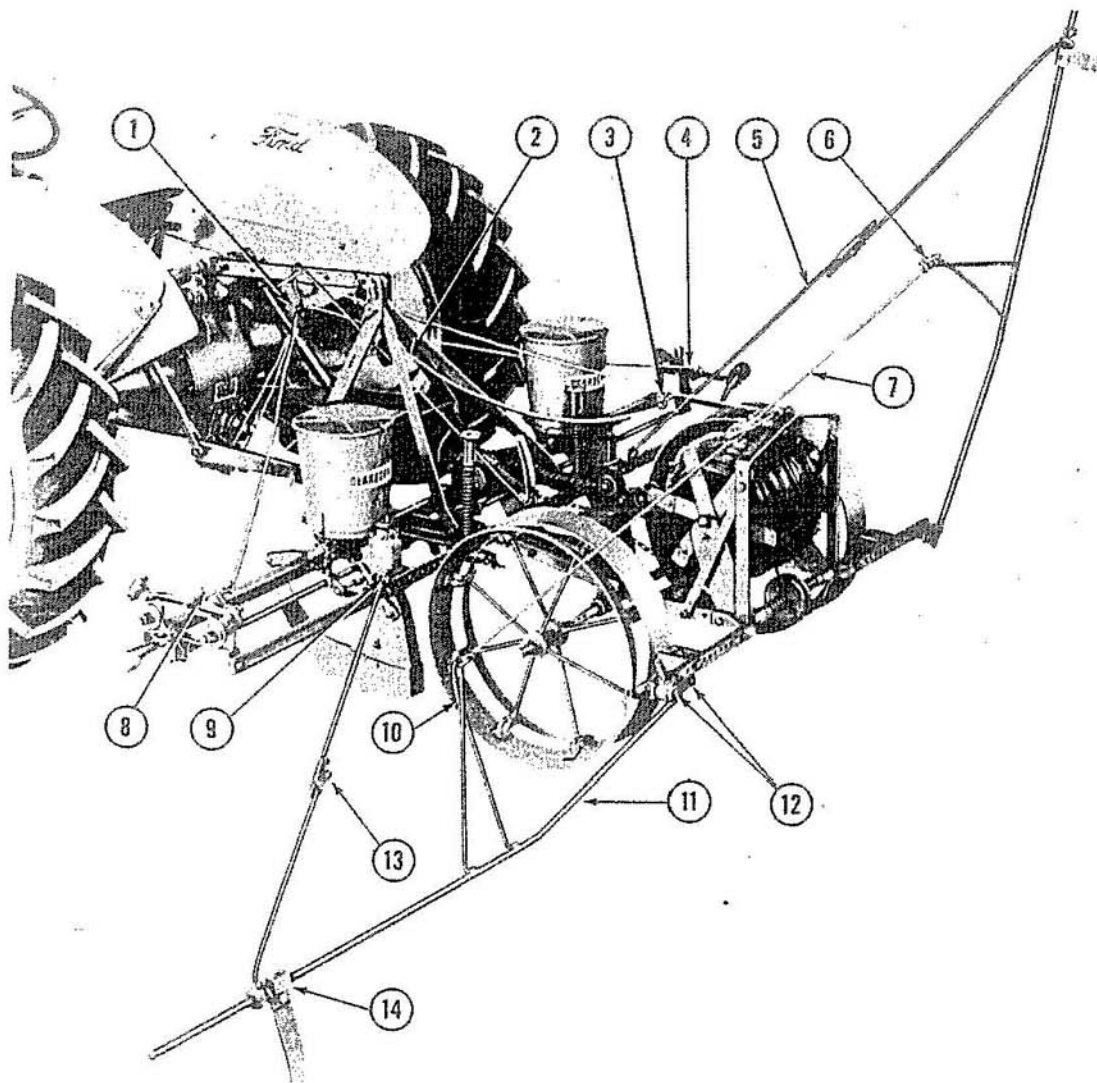

Figure 6
19. Attach a marker rod (11), Figure 6, to each outer end of the scraper frame with the two bolts (12), spacers, lockwashers and nuts provided. Attach each marker pull rod (5), to the rear cross member of the front frame with the retainer strap (9), bolt, lockwasher and nut as shown.
21. Tie the rope (7), Figure 6, between the rope anchors, (6) and (10). Tie a second piece of rope, (2), Figure 6, to the exact center of the rope (7). Run the loose end of the rope (2) through the pulley on the marker arch, forward thru the pulley which is hung on the "A" frame bushing and to the drawbar clevis pin, located under the tractor as shown. The rope (2) should have enough slack to allow the marker to operate properly when the planter is at working depth. Tie a third piece of rope to the rope (2) at point (3) and run the loose end to the tractor where it may be tied within easy reach of the operator.
22. With the planter in planting position, hook the pulley assembly (1), Figure 6, over the tractor top link behind the center bolt as shown. Loop the exact center of a fourth piece of rope around the tractor clevis pin by removing the pin and replacing after the loop is in place. Run the loose ends through the double pulley (1) and tie them to the check head latches (4) and (8), Figure 6. This rope should be tied as short as possible with-